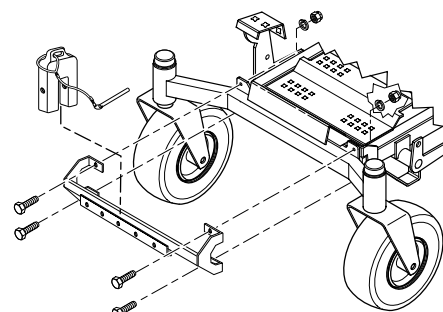

FIGURE 3-7
16. Using the weight support bar as a guide, identify the four corresponding mounting holes, and the existing hardware that will need to be removed in order to secure the weight support bar to the front of the machine as shown. See Figure 3-7.
17. Install one (1) 7/16-14 x 1-3/4" hex head bolt into each of the four mounting holes in the weight support bar, and through the matching holes in the caster support weldment. Secure this assembly to the front of the machine using the 7/16- .5" x 1-1/4" x .083" flatwashers, and the 7/16-14 elastic stop nuts. Torque hardware to 59 ft. lbs. See Figure 3-7.